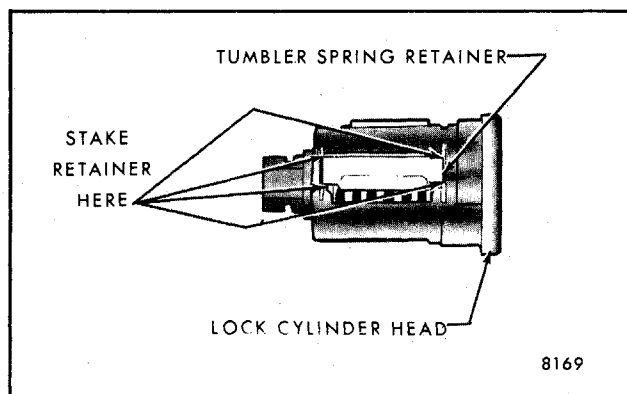

Fig. 1-6-Installing Spring Retainer
4. Insert spring retainer so that two end prongs slide into the slots at either end of cylinder. Press retainer down (see Fig. 1-6).
7. Using suitable staking tool, stake spring retainer securely in place by staking cylinder metal over retainer at each end. Refer to Figure 1-6.